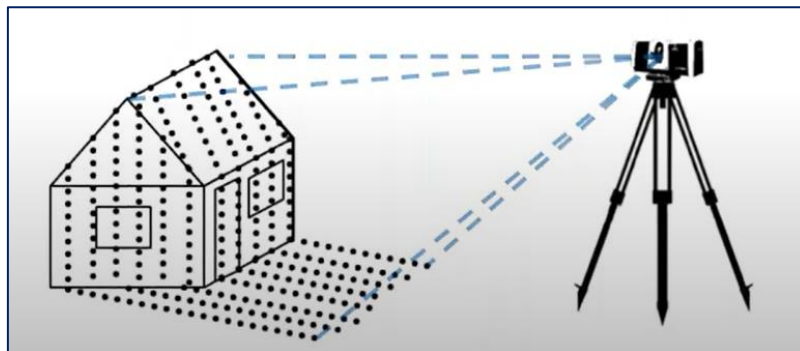

Figura 2. Laser scanner 3D terrestre
- Laser scanner terrestre (TLS) (Figura 2)